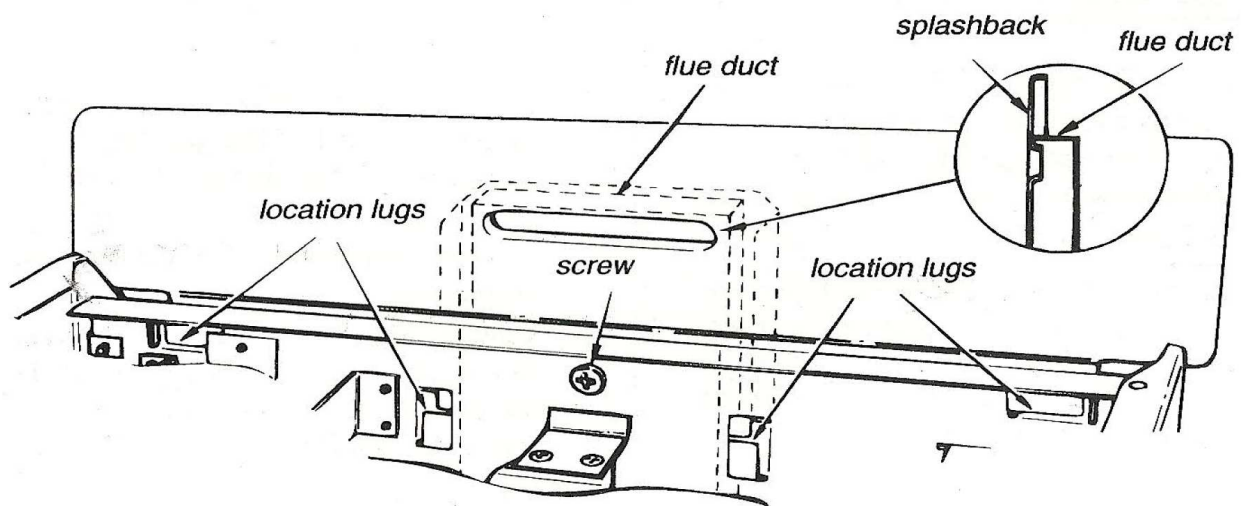

Fig.12
4. Fit the splashback as shown in Fig.12. Remove the pan support and hotplate top. Support the grill burner assembly, unscrew the two fixing screws at the rear, move the burner assembly backwards to disengage it from the injector holder, and lower it to the base of the grill compartment. Slide the splashback into the locating lugs on the cooker back, making sure that the plunged slot in the back engages inside the top of the flue duct. Secure the splashback with the No.8 x 12mm
9. Splashback Removal (Fig. 12)
Remove the grill burner (see 4). Remove the splashback fixing screw (see Fig. 12). Tilt the splashback forward slightly to clear the edge of the flue duct, and pull upwards to remove.